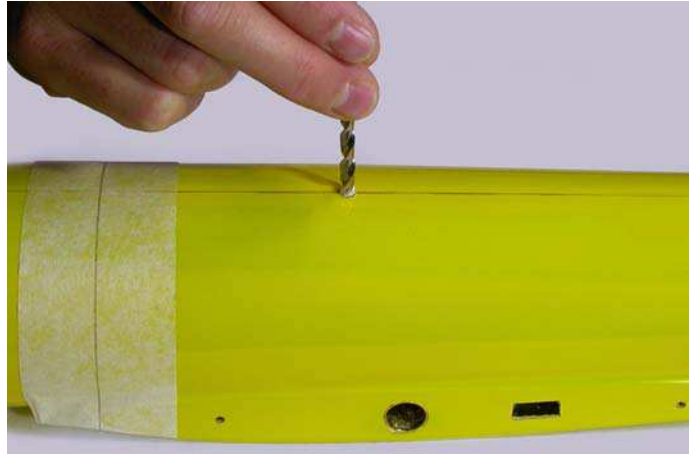

Fig.67: Hole for the tow hook.
- drill 4 mm diameter hole in the marked point (see figure 67).